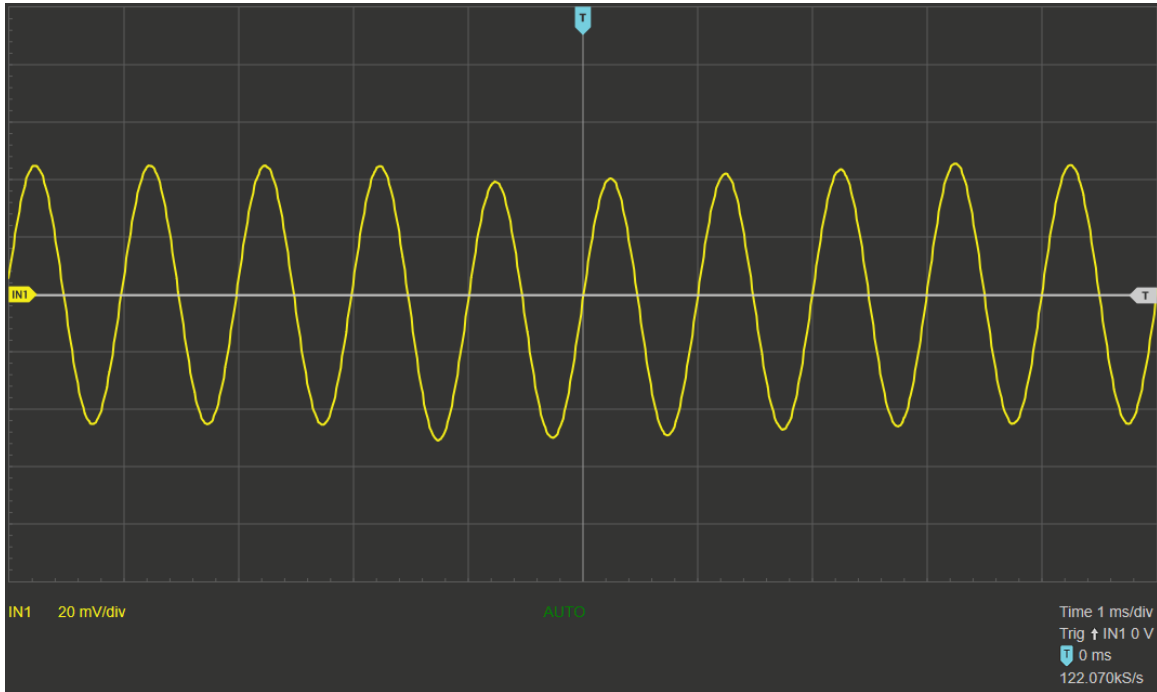

Figure 6: Mirrored Signal from Oscilloscope
- a. Shown in Figure 6 below is the signal scaled in to 20 mV/div instead of 1V/div